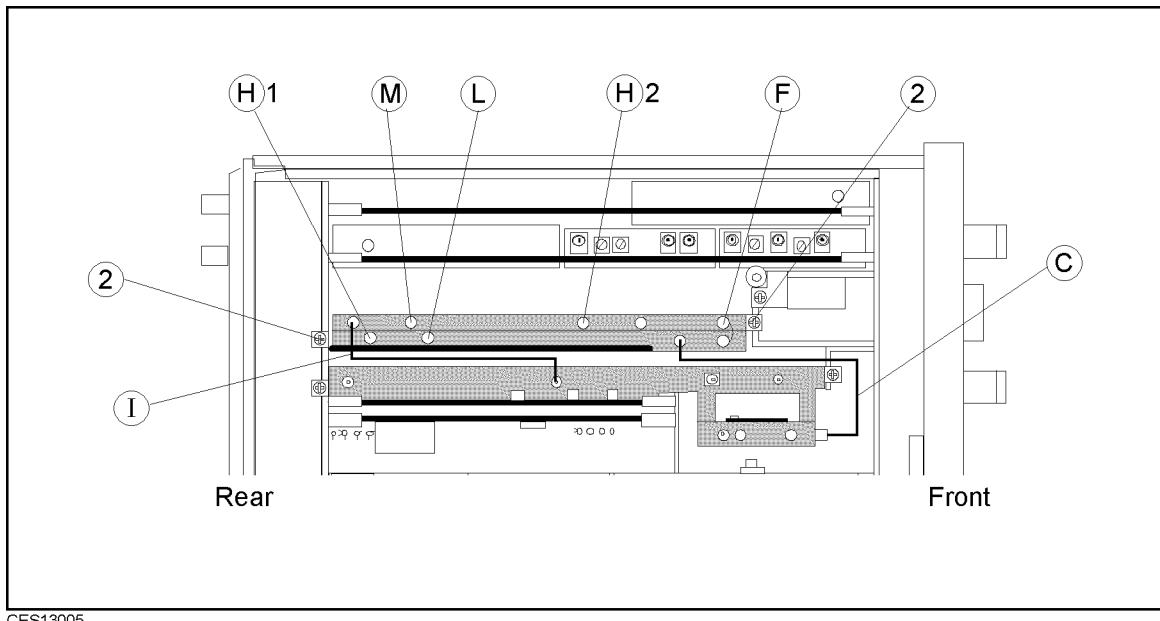

Figure 13-5. A4 First Lo/Receiver RF Replacement
4. Disconnect the flexible cables ①, ②, ③, and ④ from A4.
5. Remove the two screws designated ② in Figure 13-5, and lift A4 out.